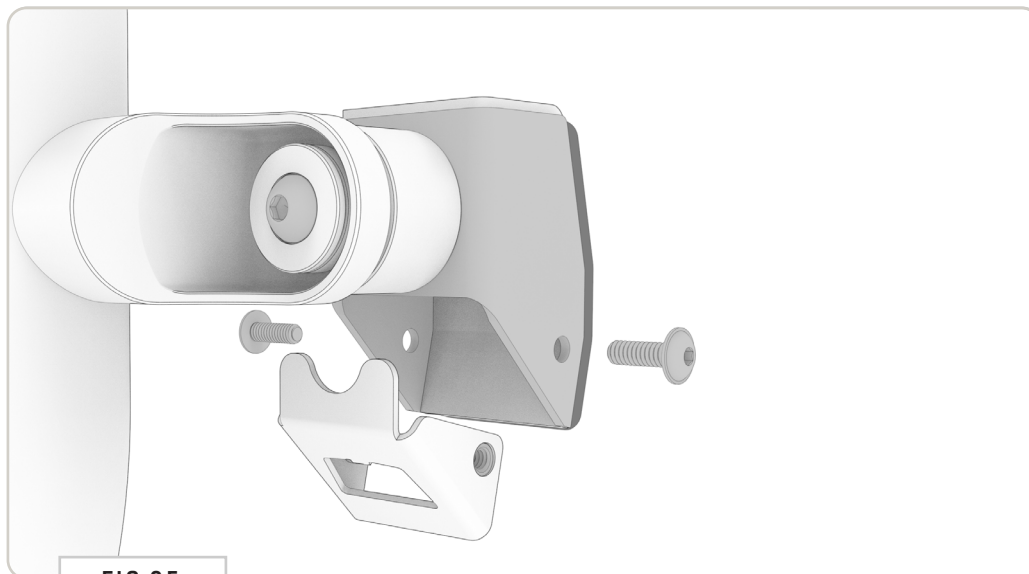

FIG 35
**9.1 Bottle Opener:** Attach the **Bottle Opener** to the **Third Mount Bracket** using (2) 1/4-20 x 0.75 Flanged Button Head Screws (FIG 35+36).